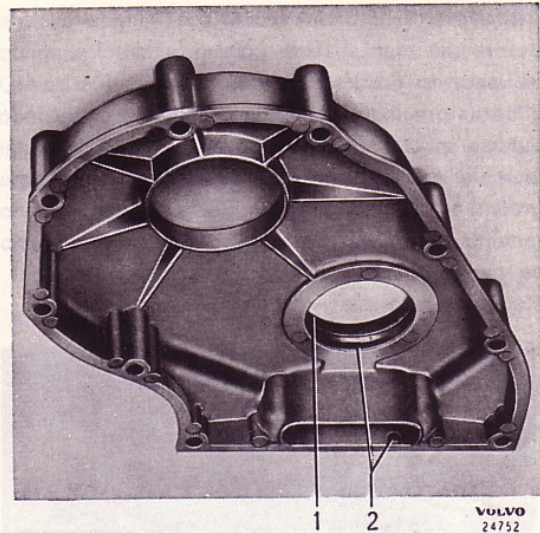

Fig. 44. Timing gear casing
4. Make sure that the gaskets are in good condition and that the drain hole is open and clean inside the timing gear casing which is to be fitted, see Fig. 44.